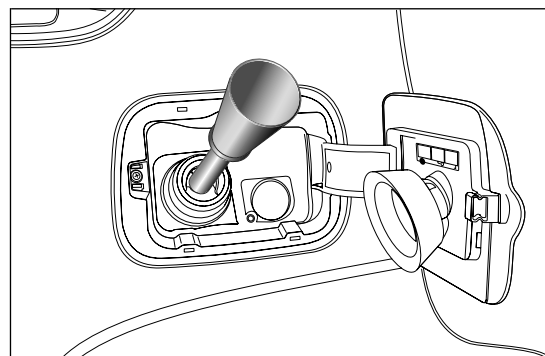

fig. 82
- ☐ insert adapter B in the filler as shown in fig. 82 and refuel;